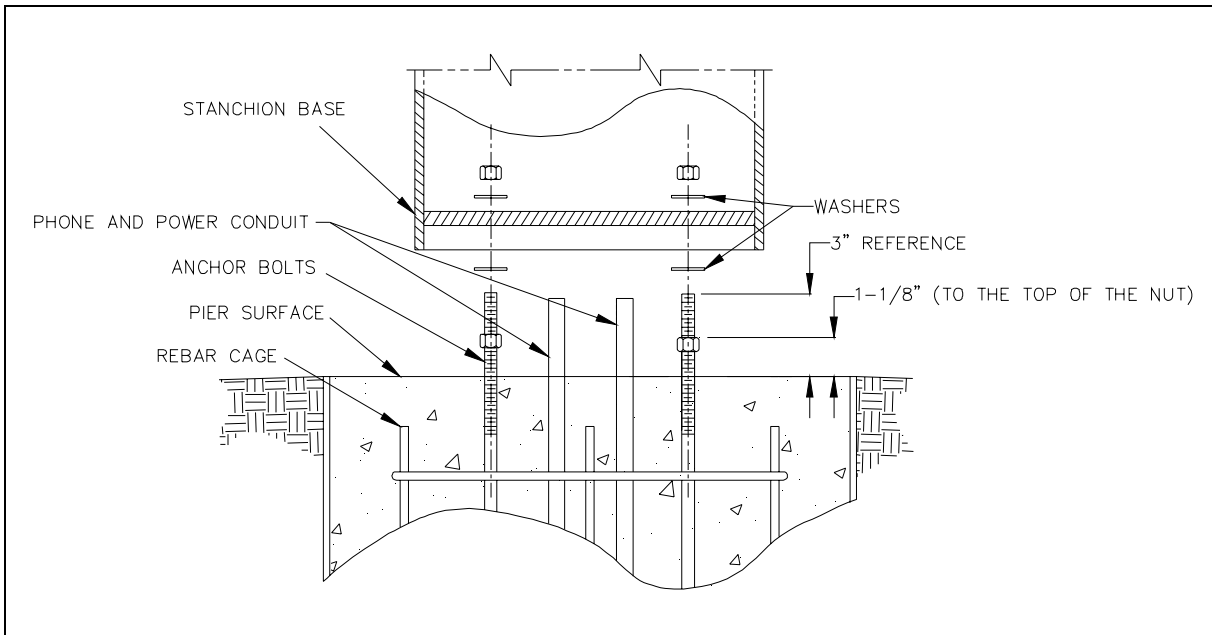
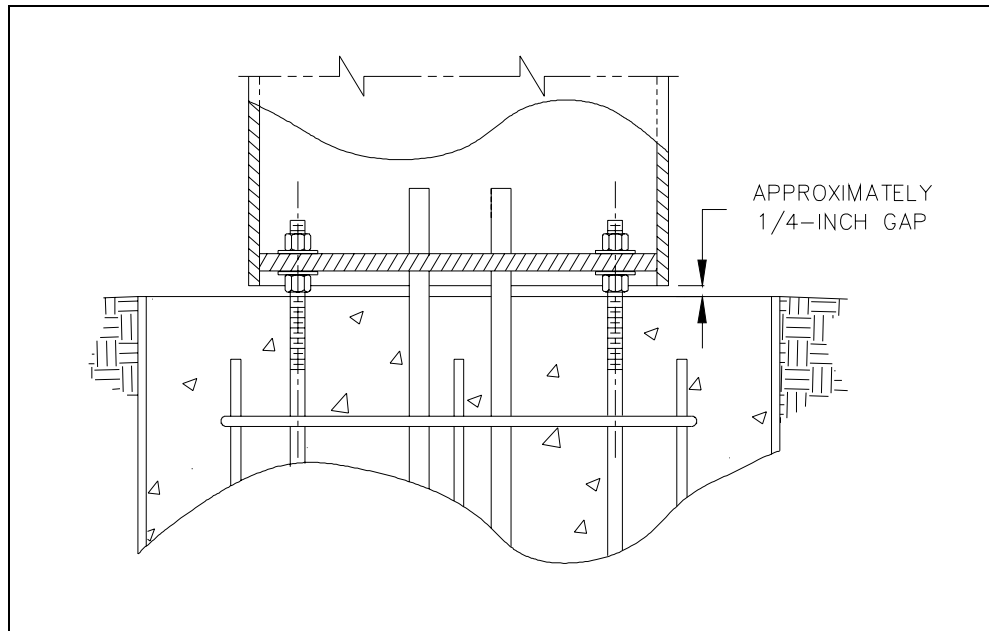

Figure 5. Exploded View
Figure 6. Assembled View
See Figure 5.
2. Adjust the remaining three hex nuts to be level with the first. Place one washer over each heavy hex nut. See Figure 5 and Figure 6.
NOTE: A 1/4-inch air gap must exist between the base of the stanchion and the top of the concrete pier. See Figure 6. This air gap must not be obstructed with soil, mulch, stone, etc.